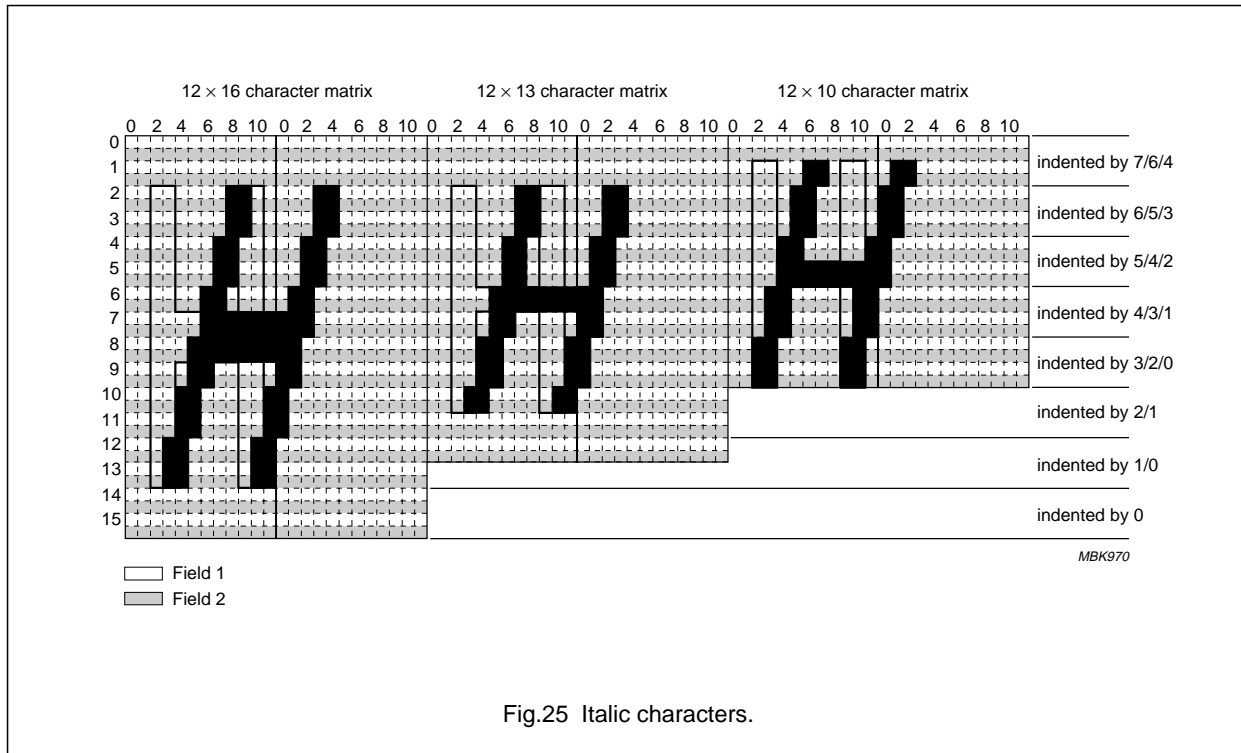

Fig.25 Italic characters.
**CC:** This attribute is valid from the time set until the end of the row or otherwise modified. The attribute causes the character foreground pixels to be offset horizontally by 1 pixel per 4 scan lines (interlaced mode). The base is the bottom left character matrix pixel. The pattern of the character is indented as shown in Fig.25.